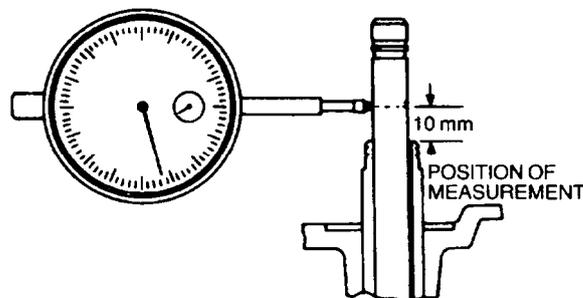

Figure 8 Measuring the Valve Guide Wear
- v. Check the valve guides for wear by installing the valves in their respective guides (use new valves if the existing valves are unserviceable) and, using a dial indicator (Figure 8), measure the clearance by pushing the valve stem back and forth against the dial indicator plunger. Replace any valve guide if the clearance exceeds the following limits:
- (1) inlet valve guides, 0.039 to 0.2 mm (0.0015 to 0.008 in); and
- (2) exhaust valve guides, 0.064 to 0.25 mm (0.0025 to 0.010 in).